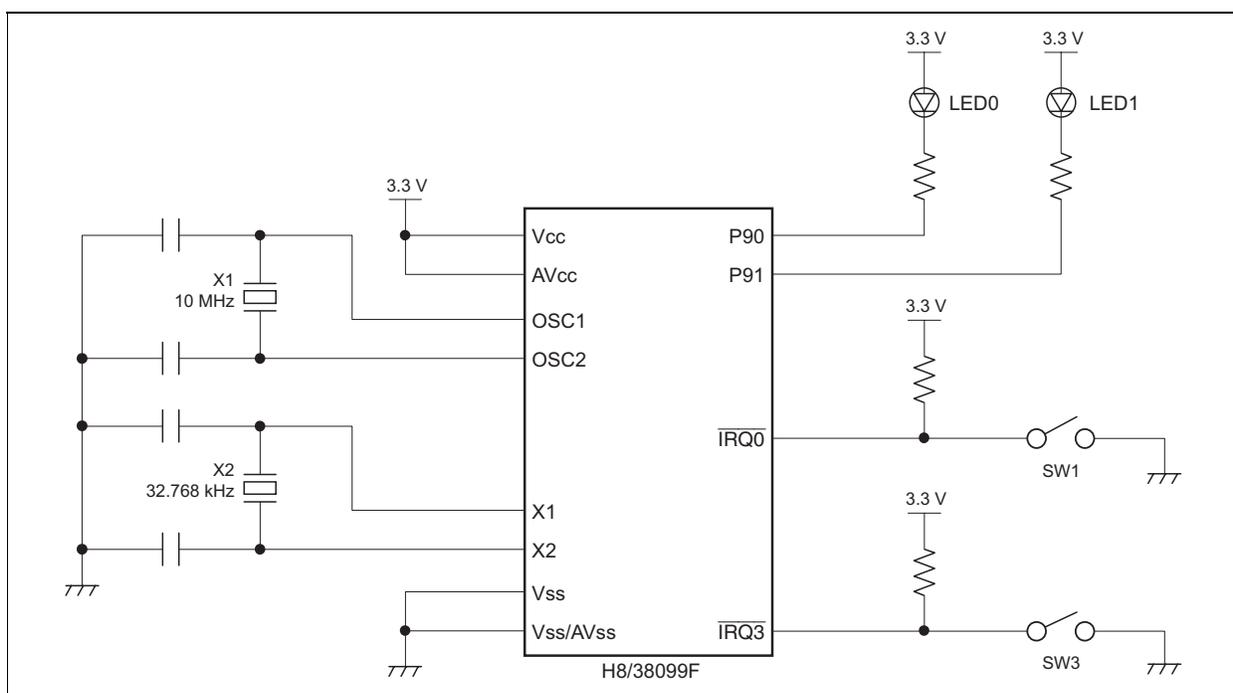

Figure 1 Hardware Block Diagram (Renesas Starter Kit for H8/38099)
- (1) The RAM emulation function of the H8/38099 Group is used.
- (2) The user program active in the RAM emulation mode is transferred to the on-chip RAM area.
- (3) The RAM overlay area is loaded with the interrupt vector addresses for the interrupts (RTC second interval interrupts) used in the RAM emulation mode.
- (4) After the transfer of the user program is completed, the LED (LED0) connected to the P90 output pin is turned on and off at 0.5 s intervals using the on-chip RTC of the H8/38099 Group.
- (5) When the switch (SW1) connected to the $\overline{\text{IRQ0}}$ input pin is pressed, control is transferred to the user program in the RAM to set the flash memory into the module standby mode.
- (6) The user program running in the RAM turns on and off the LED (LED1) connected to the P91 output pin at one s intervals using the H8/38099 Group on-chip RTC.
- (7) When the switch (SW3) connected to the $\overline{\text{IRQ3}}$ input pin is pressed, the flash memory's module standby mode is canceled. Subsequently, program process is returned to the program in the flash memory, which turns on and off the LED (LED0) connected to the P90 output pin at 0.5 s intervals.
- (8) This program runs on the H8/38099 Group RSK (Renesas Starter Kit). Figure 1 shows the block diagram of the hardware that this program uses.